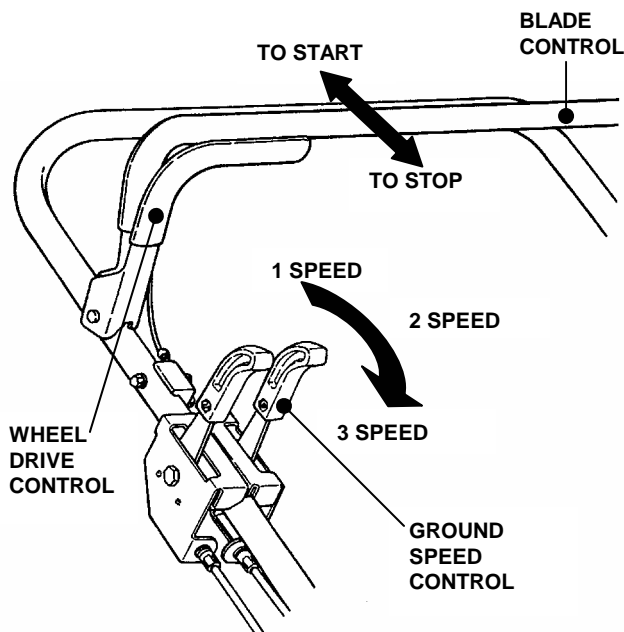

FIGURE 2.4
1. Move ground speed control to the desired speed position. See Figure 2.4.
**IMPORTANT:** Forward motion of machine must be stopped before changing position of the ground speed control. See Figure 2.4.